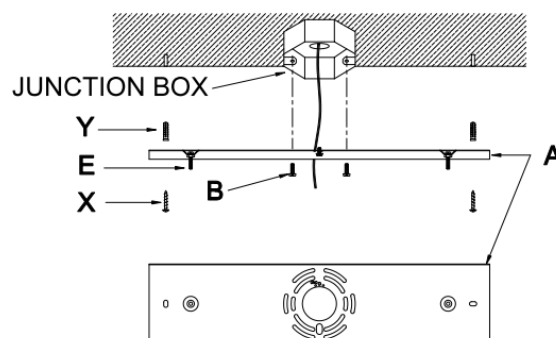

Fig. 3
CONNECTING THE WIRE (Fig. 3)
11. Connect the electrical wire as shown in Fig.3. Making sure that all wire connectors are secured. If your outlet box has a ground wire (green or bare copper), connect fixtures ground wire to it. Otherwise, connect fixture ground wire directly to the mounting plate using green screw provided.